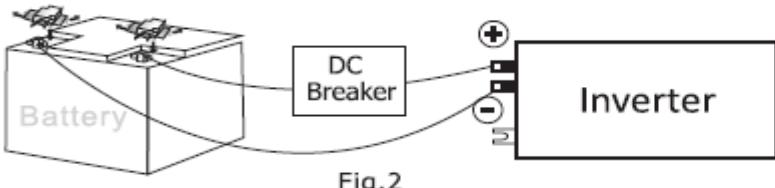

Fig.2
Step4: Install a DC Breaker in a positive line. The rating of the DC Breaker must be according to the inverter's battery current(75Amp).Keep the DC Breaker off.(See Fig.2)
1) Single battery connection(Refer to Fig.2): When using a single battery, its voltage must be equal to the Nominal DC Voltage of the unit.(See below Table 1)